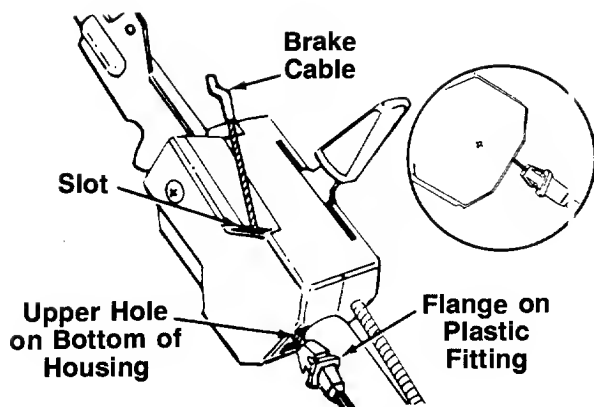

FIGURE 6.
1. The brake cable is attached to the engine, and has a "Z" fitting on the loose end. Route the brake cable below the lower handle. Place end of cable into the upper hole on the bottom of the control housing, and through the slot as shown. The angle of the plastic flange must be positioned downward as shown in figure 6. Be careful not to bend or kink the cable at any time.